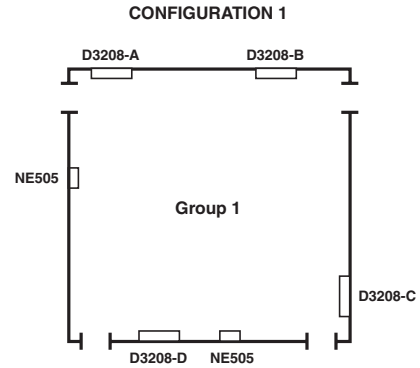

Figure 3-4: Open-Room Configuration
Figure 3-4 presents a configuration that is appropriate when all partitions are down and the space is converted into one, large room. In this configuration, any Multizone Controller can be used to adjust lighting at once. For example, pressing the Scene 2 button on any panel will take all panels to Scene 2. Technically speaking: Configuration 1 contains one group, Group 1, which includes D3208-A, D3208-B, D3208-C, and D3208-D.
- If it hasn't already been done, consider sketching out the installation for each configuration/room layout (similar to Figures 3-4 through 3-6).